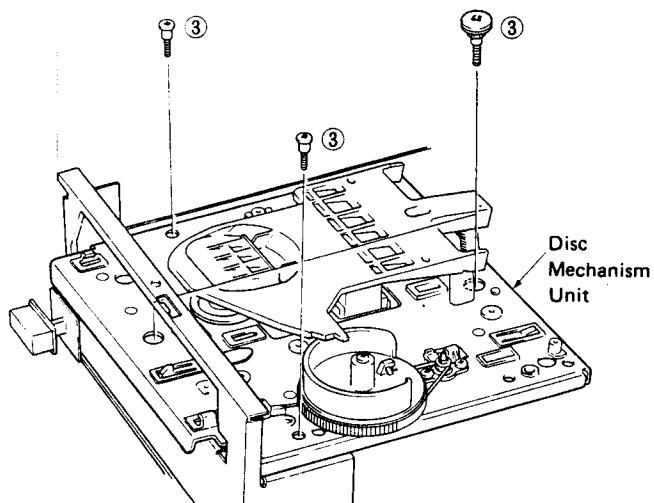

Fig. 4
- Remove 4 screws (③) in Fig. 4.